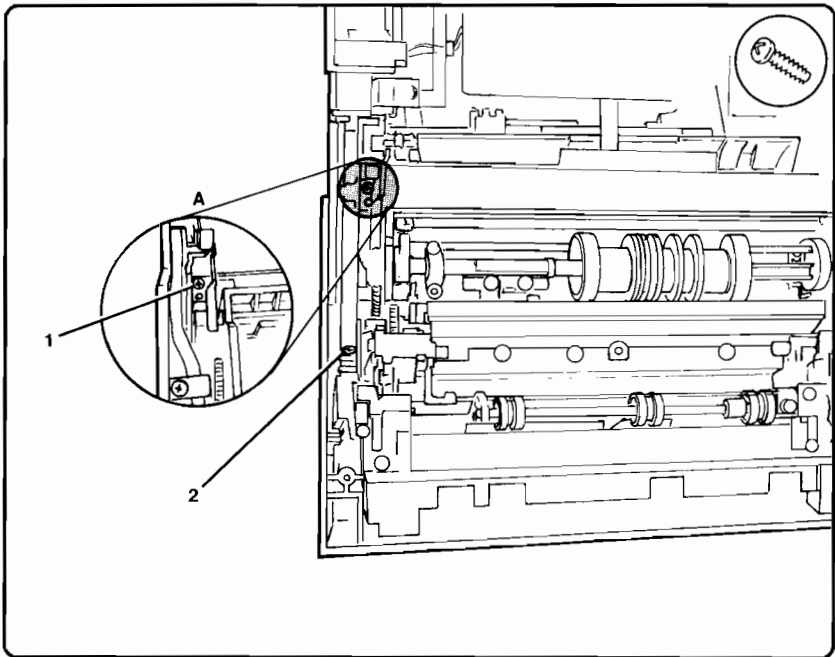

Figure 6-77. Paper Path Door Removal (continued)
9. Remove the long screw (1) with star washer securing the metal Paper Path Door Stop (see Figure 6-77, detail A, callout 1).
11. Remove the screw (1) securing the Power Switching Lever Bracket (see Figure 6-77, callout 2), and carefully release the spring tension on the bracket.